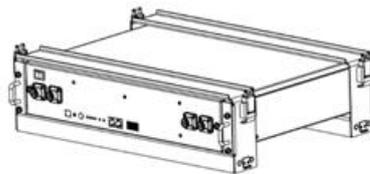

Figure 3-5
1. Place the B4850 and brackets as shown in the figure3-5, and insert the B4850 into the brackets. Use 4 screws to fix the module on the front bracket.